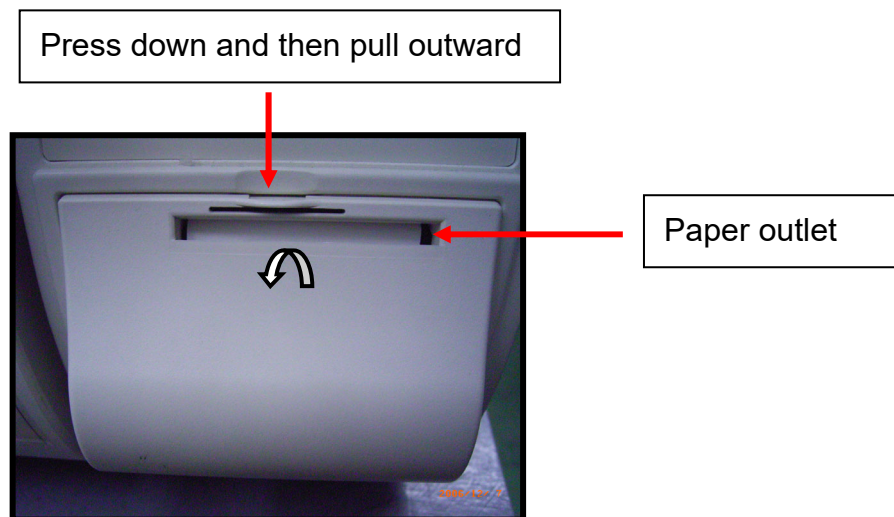

Figure 146
- B. Press down and then pull outward the rim of the printer cover (See Figure 146).